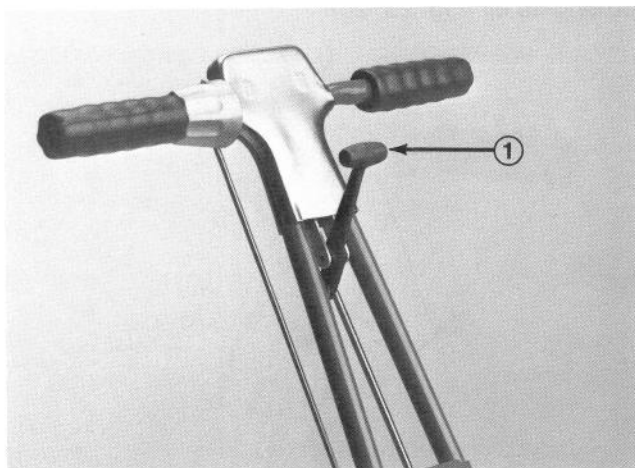
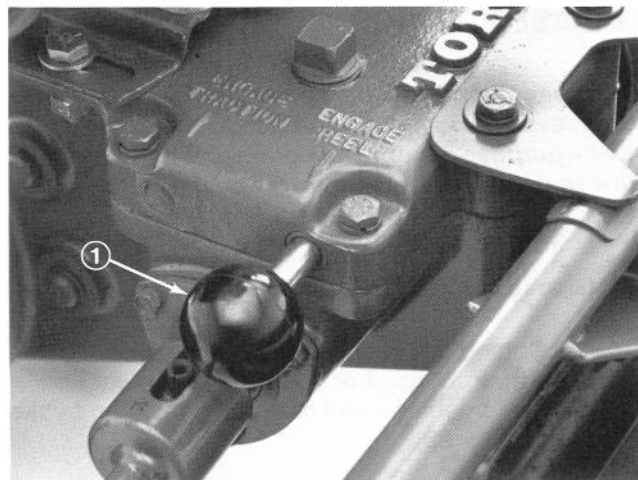

Figure 21
Figure 22
2. Pull traction clutch control lever (Fig. 21) back to DISENGAGE position and pull reel drive control knob on transmission fully out to ENGAGE reel (Fig. 22).